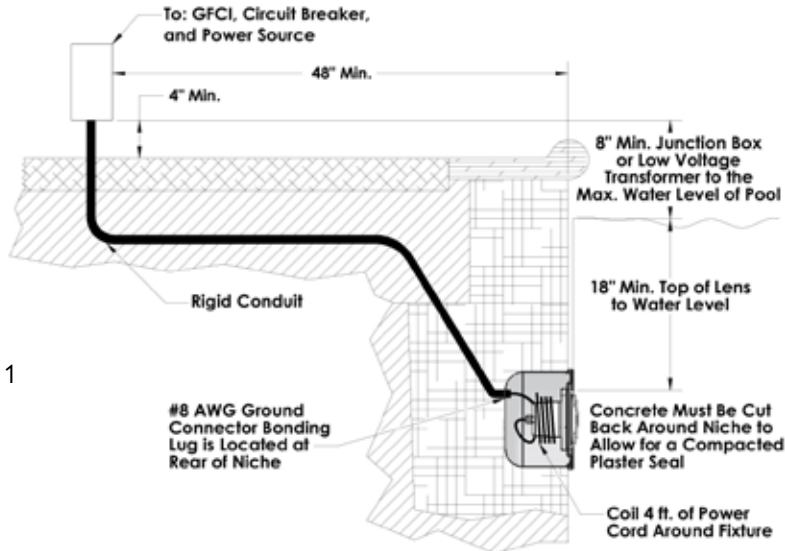

Figure 1
- A junction box or low voltage transformer is located at least 8 inches above the maximum pool water level and at least 48 inches from the pool edge; reference Figure 1.
- Proper wet, niche installation with the top edge of the underwater light's lens at least 18 inches below the surface of the water in the pool and not more than 20" in Canada; reference Figure 1.
- Proper electrical wet niche bonding and grounding using the #8 AWG ground connector at the rear of the niche; reference Figure 1.
1. Feed the fixture cord through the conduit to the junction box. Be sure to leave at of servicing once the pool is filled; reference Figure 1.
2. At the junction box, cut the cord. Be sure to leave at least six (6) inches of cord for making connections.
3. Carefully strip the outer cord jacket to expose six (6) inches of underlying three insulated wires.
4. Connect these three (3) wires to their corresponding junction box circuit wires and secure the junction box cover in place.